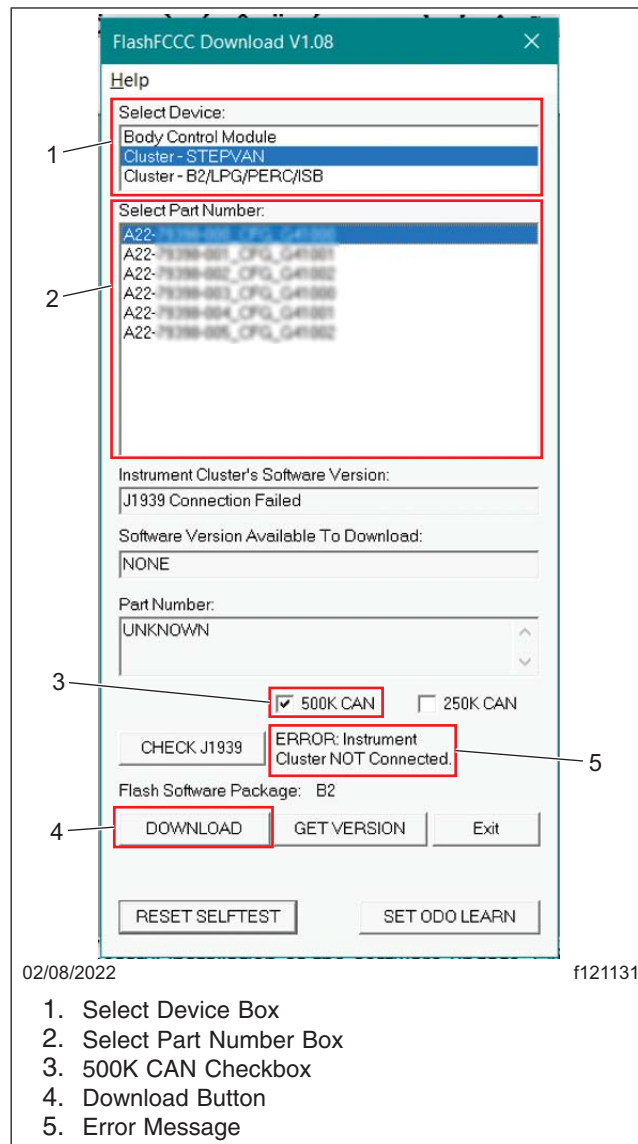

Fig. 10, FlashFCCC Download V1.08 Window
7. In the 'FlashFCCC Download V1.08' window that appears, perform the following substeps. See Fig. 10.
IMPORTANT: If the message 'ERROR: Instrument Cluster NOT Connected' appears, there is a connection issue between the Nexiq2 box and the vehicle. See Fig. 10. Perform any of the following actions to troubleshoot the connection issue: